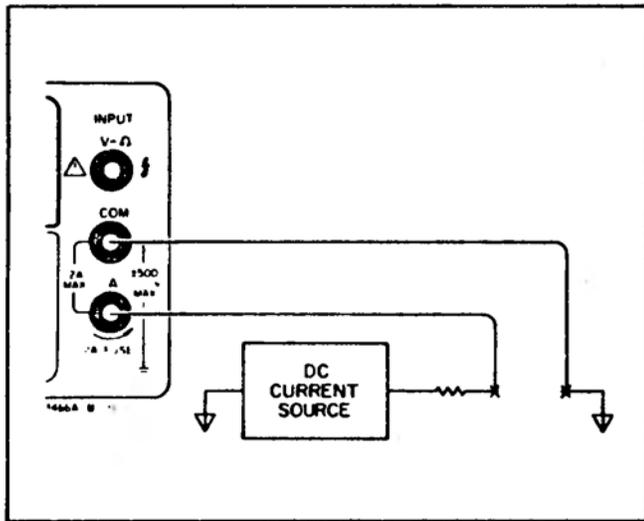

Figure 3-8. DC Current Measurements
- c. Connect test leads from the Multimeter A and COM terminals in series with the current under test as shown in Figure 3-8.